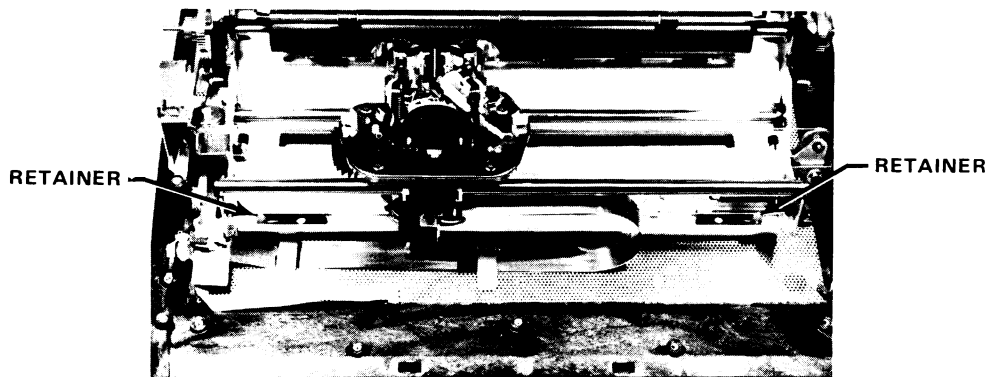

Figure 4-15. PRINT MECHANISM FRONT RETAINERS
- 13) Unlatch the print mechanism from the bottom pan. The mechanism is held in place by two retainers located just inside the side frames of the mechanism, as shown in Figure 4-15. The retainers are unlatched by pulling the retainer slides toward the center of the mechanism. (A forceful tug may be required to overcome the detent.)